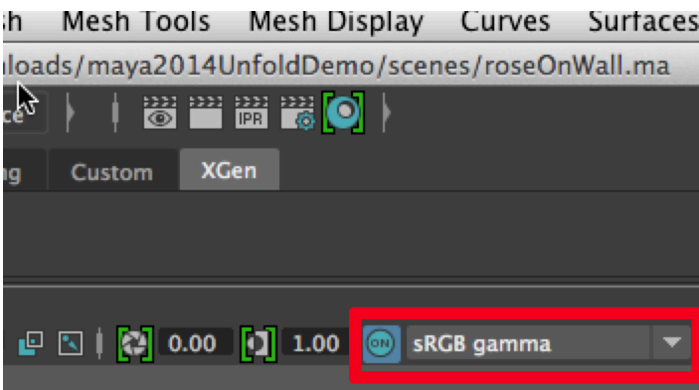

Figure 56
2. You can enable a soft proof in the Render View and Viewport 2.0 toolbars (Figure 56). The View transform is On by default when color management is enabled. Note: View transforms do not change your files' color each time you preview; rather, they create a temporary view that disappears when you close the preview.